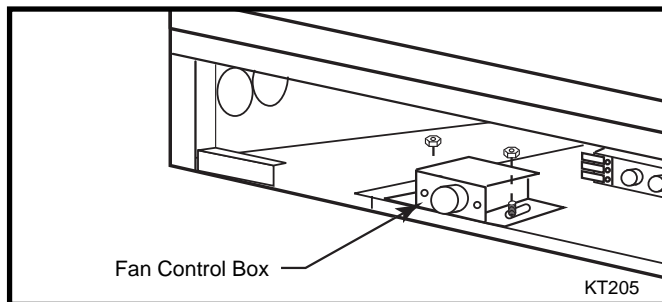

Fig. 30 Remove fan control box.
- a. Remove the Fan Speed Control Box (Fig. 30)